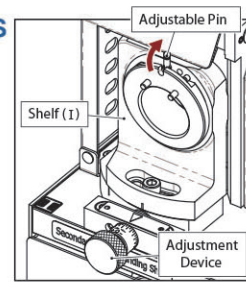

Fig. 7-1
1. Secondary Relief Grinding Shelf (I) (Fig. 7-1)
- ① Move the adjustable pin on the Shelf (I) from the bottom to top.
- ② Adjust the cutting face adjustment device to "0", after finishing the whole sharpening procedure, then adjust this device according to your needs.